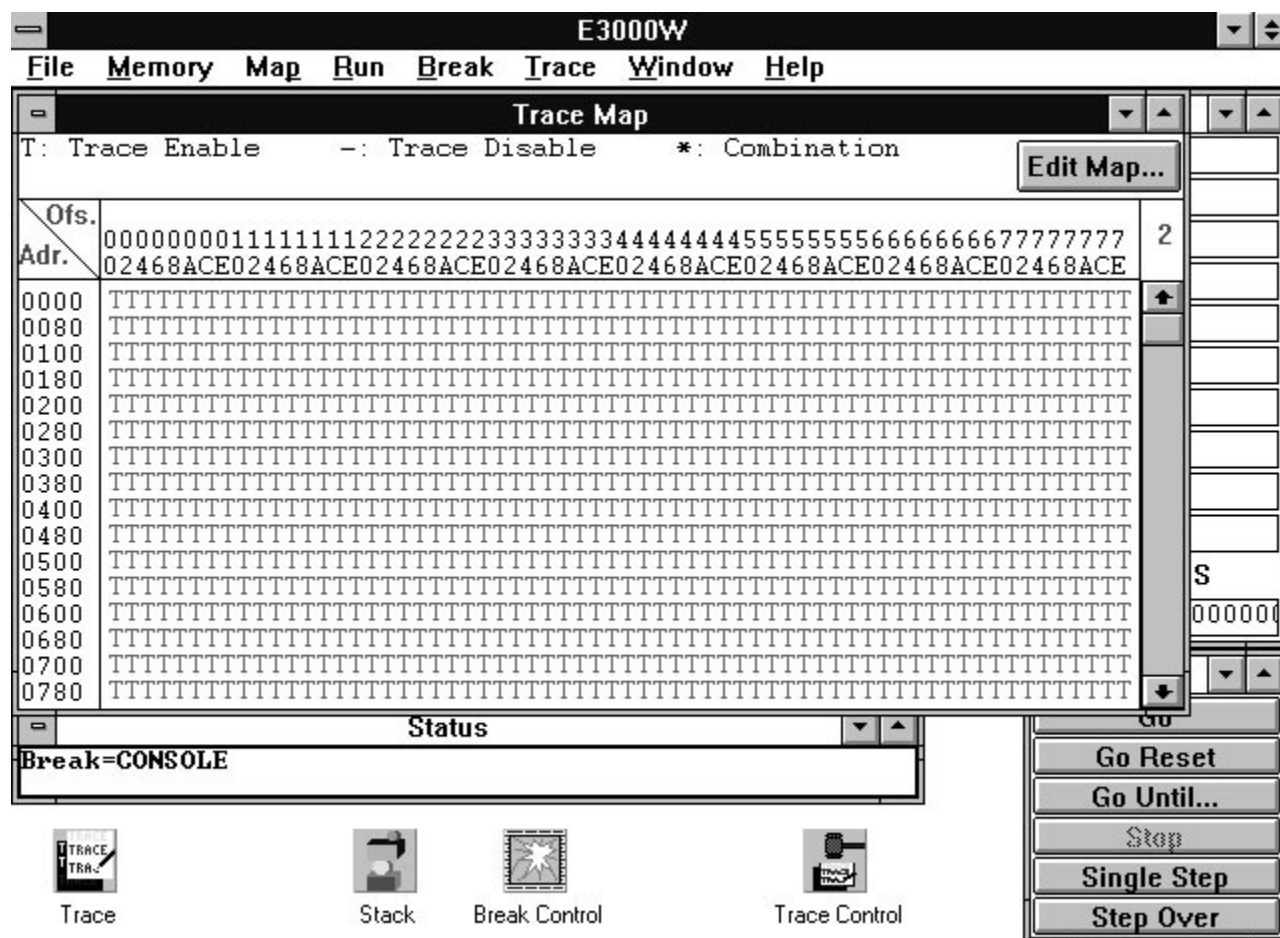

Figure 15.
*Map* option in the *Trace* file menu to display the *Trace Map* window and configure the trace map (see Figure 15). The default trace map is enabled throughout the entire MPU address range. To select only a portion of the program to be stored in the trace buffer, specify the boundaries of this portion of the program in the *Start Address* and *Stop Address/Length* fields in the *Edit Trace Map* dialog box, click on the *Trace Enable* button, and click on the *Set* and *Done* switches.